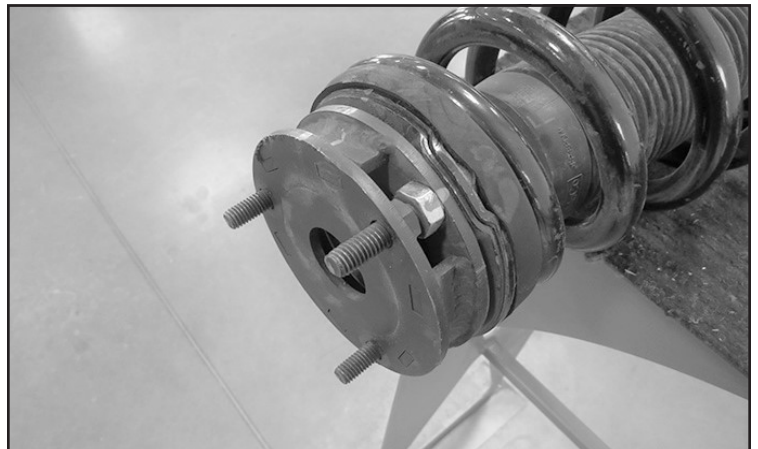

FIGURE 6 - STEP 6
6. Install FT30992 (Front strut spacer) onto the top mount using the supplied M10 nuts and thread locking compound. **SEE FIGURE 6**